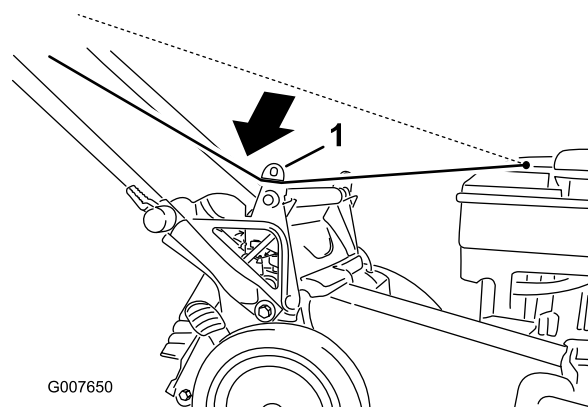

Figure 29
1. Route the starter rope around the lower rope guide (Figure 29).